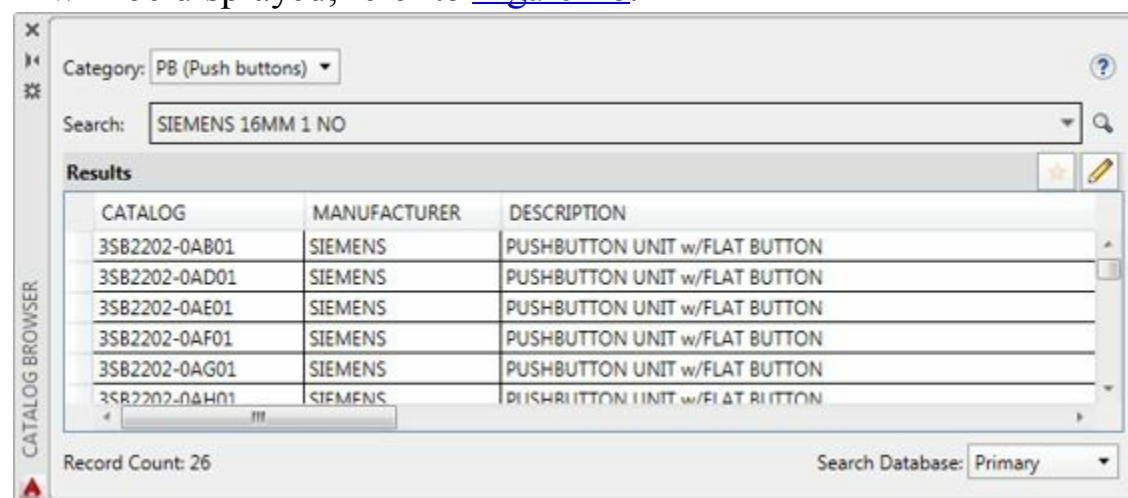

Figure-18. Catalog Browser dialog box with desired components
- Click on the **Search** button next to Search edit box, the list of components matching the keywords will be displayed; refer to Figure-18.